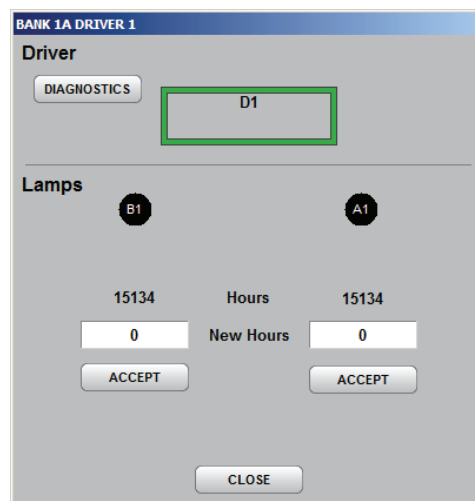

Figure 33 Lamp Driver Detail Screen
1. From the Lamp Driver Detail Screen (Figure 33), select either ENABLED or DISABLED button.